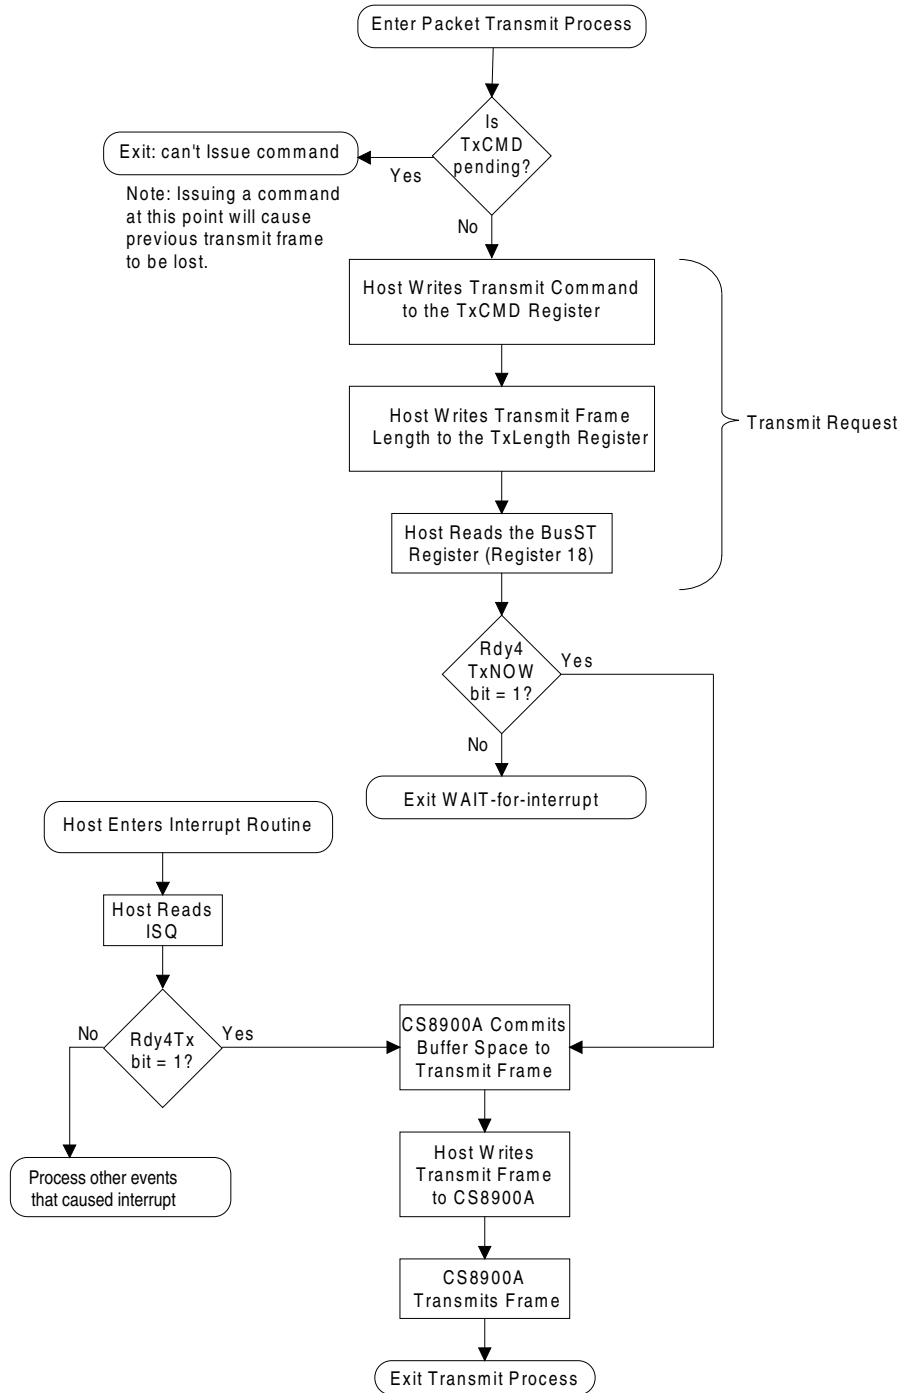

Figure 31. Transmit Operation in Interrupt Mode
- In interrupt mode, Rdy4TxIE bit (Register B, BufCFG, Bit 8) must be set for transmit operation. Transmit operation occurs in the following order and is shown in Figure 31.